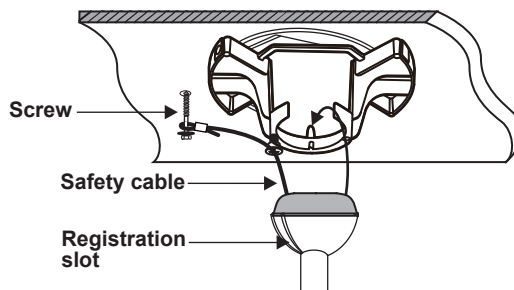

Figure 10
10. Now lift the motor assembly into position and place the hanger ball into the hanger bracket. Rotate down rod until the "Check Tab" has dropped into the "Registration Slot" and the down rod and ball assembly seat firmly. The down rod and ball assembly should not rotate if this is done correctly. (Fig. 10)